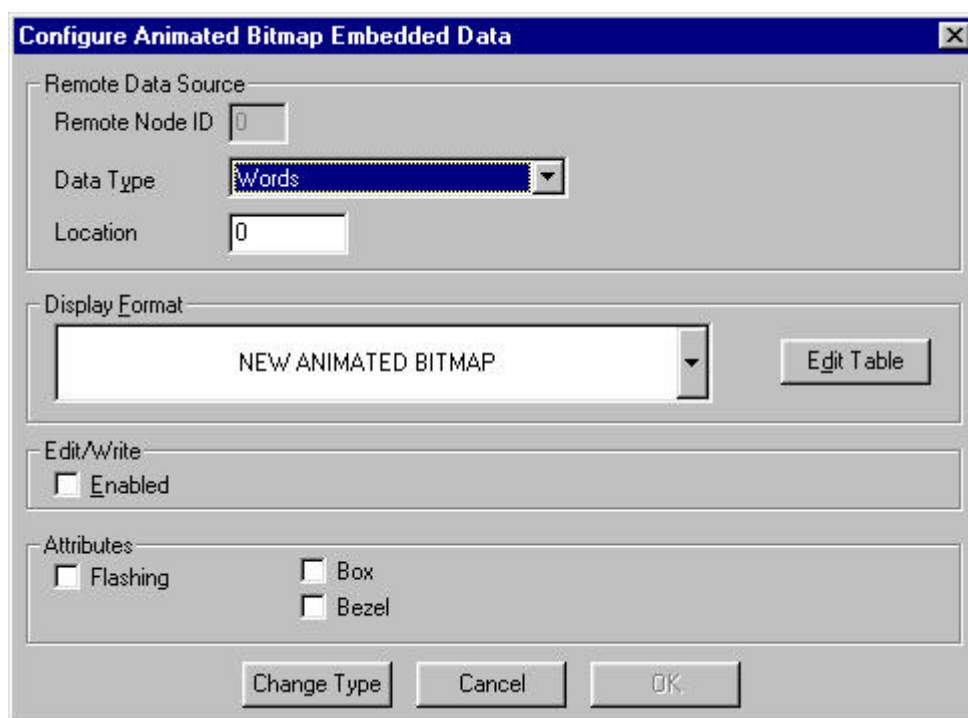

Figure 8.6 – Embedded Animated Bitmap Selector Windows
4. The normal Animated Bitmap Selector data type window will appear (Fig 8.6).